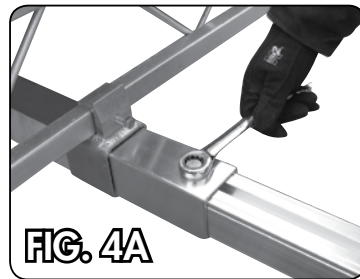
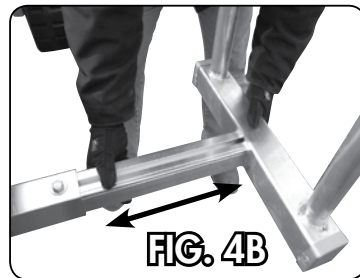

FIG. 4A
FIG. 4B
4. WITH THE BOAT IN ITS CURRENT LOCATION ON THE LIFT, LOOSEN THE 1/2" SET BOLT ON THE BOW STOP AS SHOWN IN **FIGURE 4A** AND SLIDE OUTWARD UNTIL IT MAKES CONTACT WITH THE BOAT AS SHOWN IN **FIGURE 4B**. TIGHTEN SET BOLT AND TORQUE TO 20 FT/LBS.